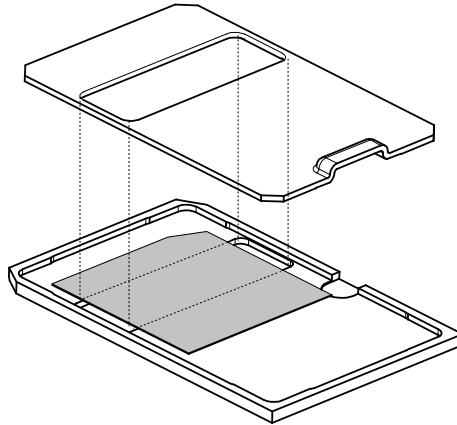

Figure 1.14 Attach the film cassette lid
- b Put the film cassette lid on the film cassette tray so that the opening in the lid aligns with the opening in the tray, see Figure 1.14.